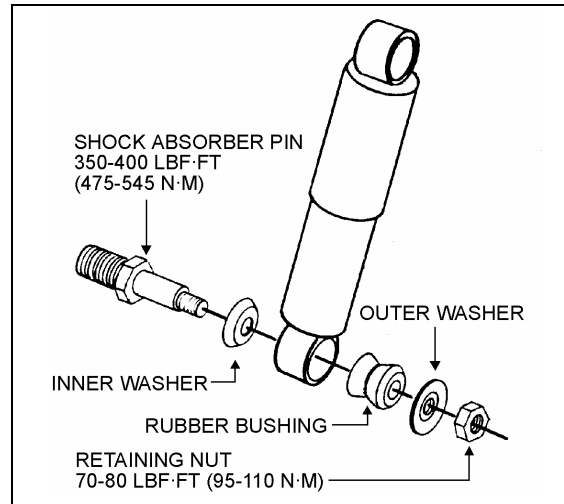

FIGURE 4: SHOCK ABSORBER
| FIGURE 4: SHOCK ABSORBER 16-6 | |
1. Remove nuts and washers from shock absorbers on upper and lower mounting pins, taking care to identify the inner and outer washers to ease reinstallation. Refer to figure 4 for details